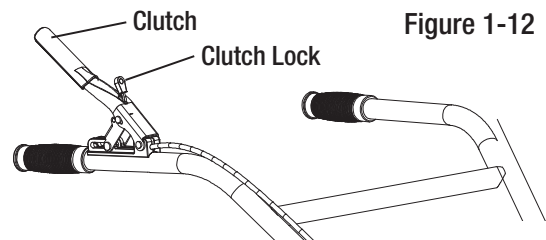

Figure 1-12
- To unlock the clutch handle first press the clutch lock and then press the clutch. See Figure 1-12